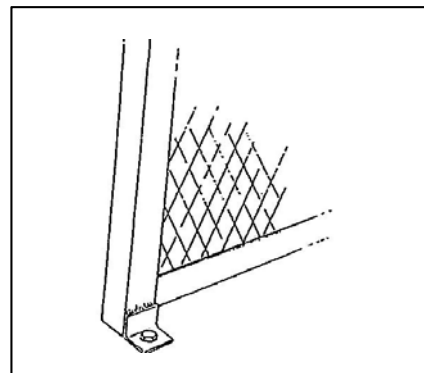

Figure 2
2. Standard panels are 8' high in compliance with OSHA requirements. Total height includes 1½" legs. These panels are located and lagged to the floor. **See Figure 2.**